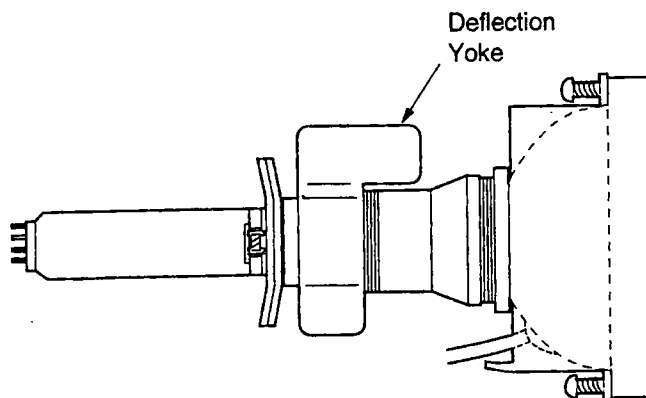

Fig 5-7
10. Remove the Deflection Yoke from the neck of the CRT. [Fig. 5-7]
2. Install the Deflection Yoke on the CRT neck. [Fig. 5-7 ]